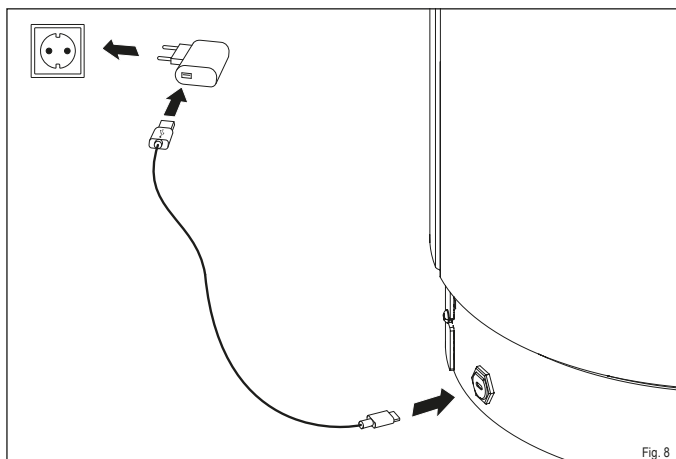

Fig. 8
- ▶ Connect the USB-C cable to the socket on the stove and the mains plug (Fig. 8).
- ▶ Connect the mains plug to the mains (Fig. 8).